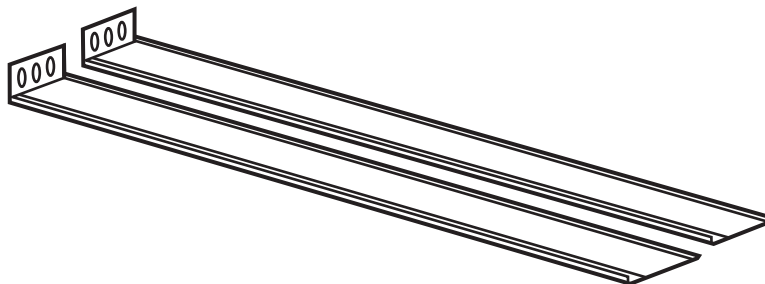
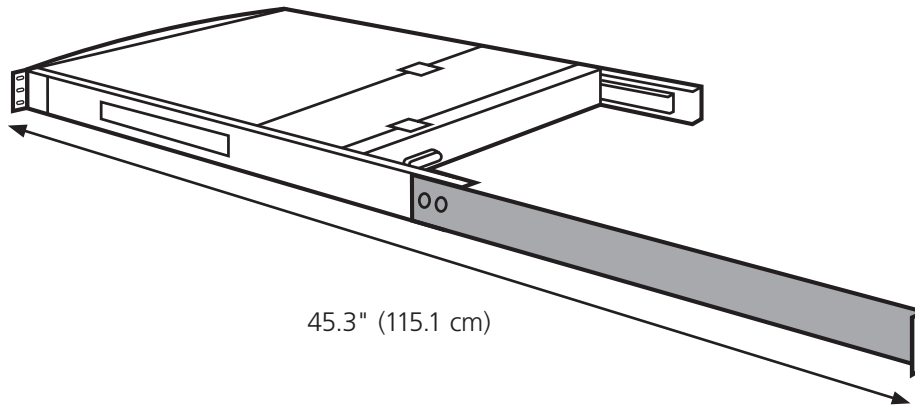

Figure 2-3. Rear bracket pair.
Figure 2-4. The maximum depth of the unit.
Figure 2-3 shows the rear bracket pair, and Figures 2-4 and 2-5 show the ServView V in its maximum and minimum extension positions.
*NOTE: The lengths in Figures 2-4 and 2-5 are the depths measured between the front pole and rear pole inside a 4-post rack or cabinet, **not** the outside depth of the enclosure.*